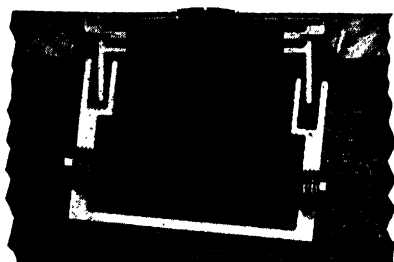
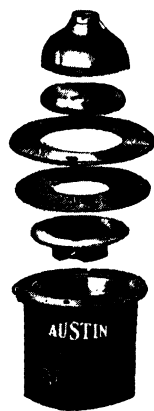

Fig. 76. Adjustable Floor Box
Fig. 77.
**Floor Boxes.** There are two types of these, Fig. 76, the adjustable, and Fig. 77, the nonadjustable. The latter is much cheaper to buy, but unless you are sure you can set it level so that it will stay level and at the correct height to bring the top of finish plate flush with the finished floor, you will be money ahead by buying the adjustable type at double the difference in price.